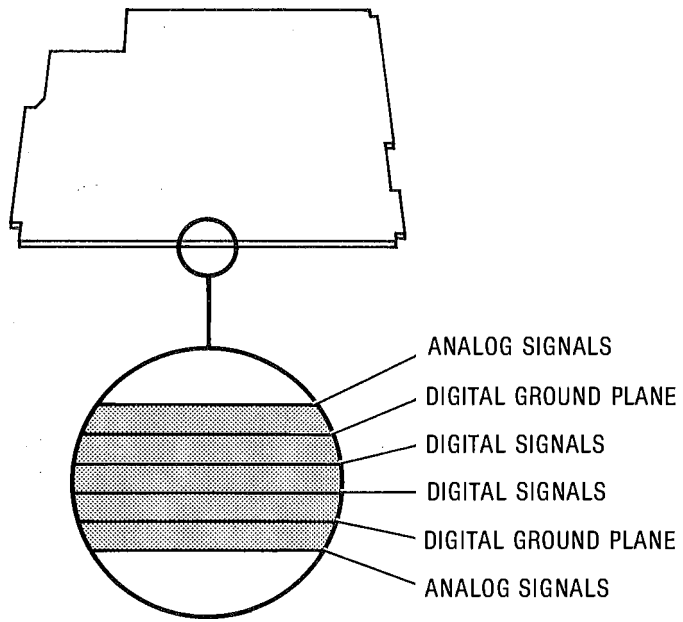

Figure 8E-1. A62 Motherboard Cross Section
- ☒ The A62 Motherboard Component Location Diagram (Figure 8E-2).
- ⊠ **GND PLANE** - Refer to Figure 8E-1, A62 Motherboard Cross Section for the following explanation.
As shown in Figure 8E-1, A62 Motherboard Cross Section, the GND PLANE exists between the two innermost and two outermost Motherboard printed circuit layers. These layers were designed to disperse any digital noise into the GND PLANES and act as an electrostatic shield between the digital and analog signal traces. The GND PLANES extend to each edge of the Motherboard and are connected to STAR GND. With this scheme, isolation between analog and digital grounds is maximized and signal crosstalk minimized.